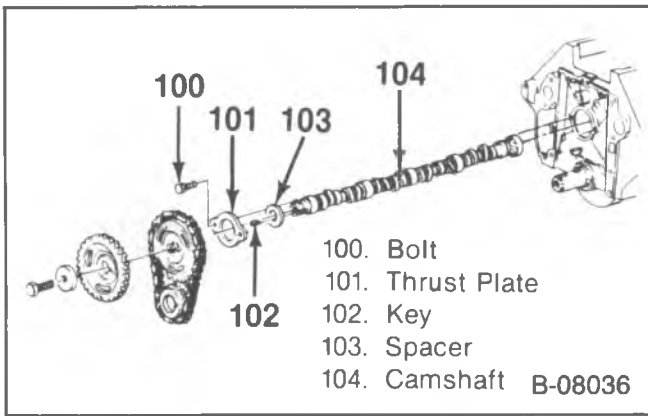

Figure 17—Camshaft and Components
**Remove or Disconnect (Figure 17)**
Remove or Disconnect (Figure 17)